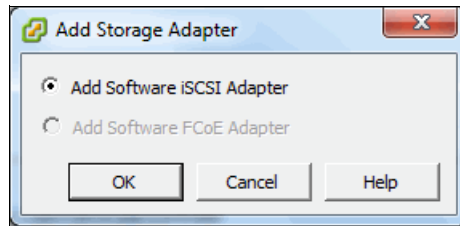

Figure 4-13 Add Software iSCSI Adapter
3. Click **Add**, and the window shown in Figure 4-13 should open.